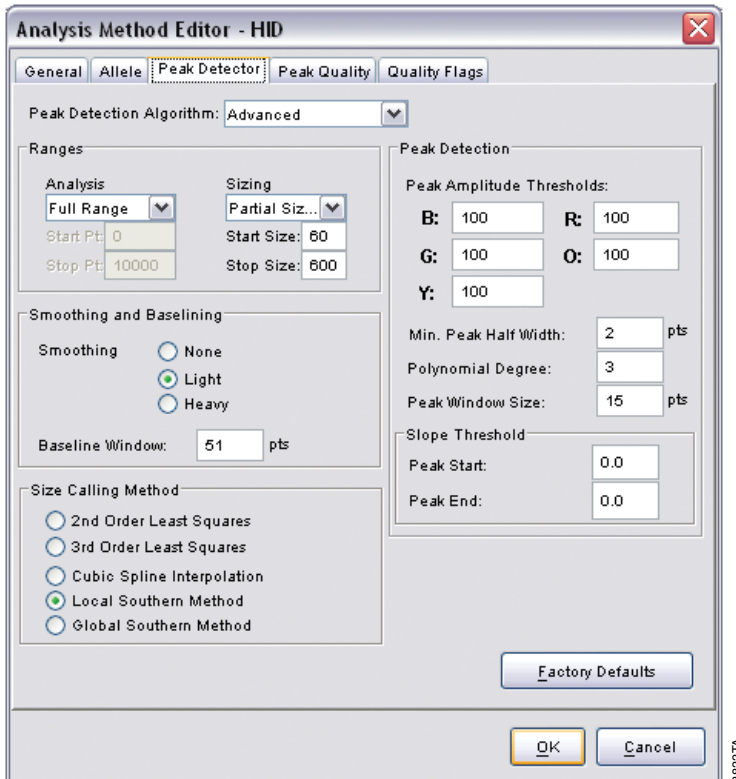

Figure 15. The GeneMapper® ID ‘Allele’ tab.
6. Select the ‘Allele’ tab (Figure 15).
9. Enter the values shown in Figure 15 for proper filtering of stutter peaks when using the PowerPlex® CS7 System. For an explanation of the proper usage and effects of these settings, refer to the Applied Biosystems user bulletin titled “*Installation Procedures and New Features for GeneMapper ID Software 3.2*”.